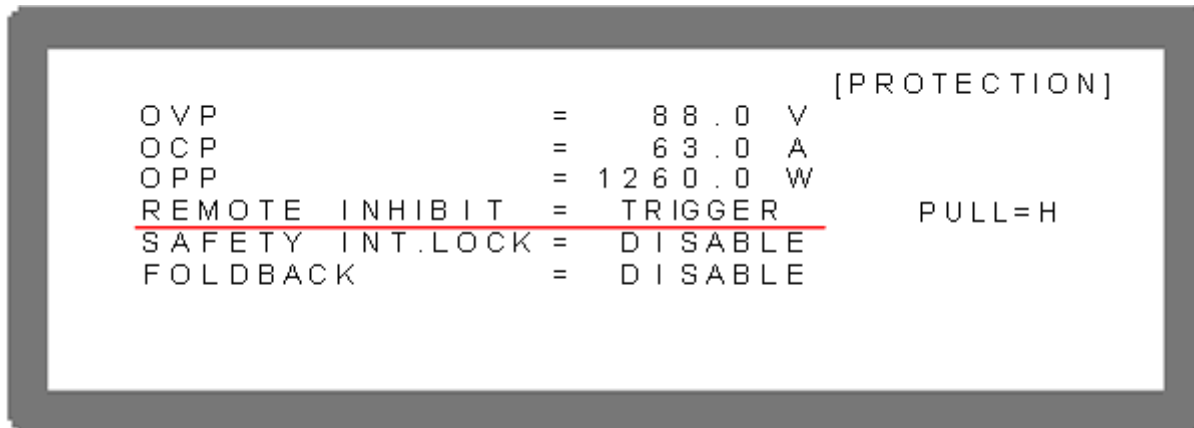

Figure 3-81
- Use “” & “” keys to move the cursor to the column to be set as Figure 3-81 shows.